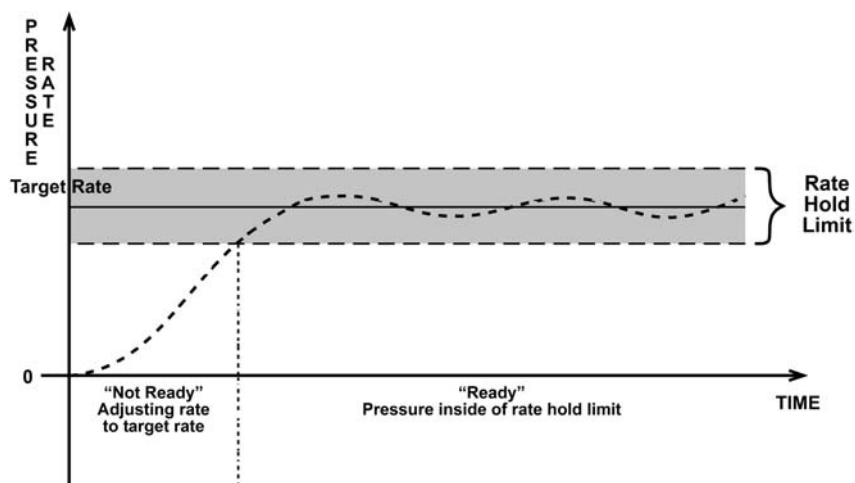

Figure 16. *Ready/Not Ready* in Ramp Pressure Control Mode
Figure 16 illustrates *Ready/Not Ready* operation in monotonic control mode.
*Note that Figure 16 plots rate of change of pressure, not pressure.